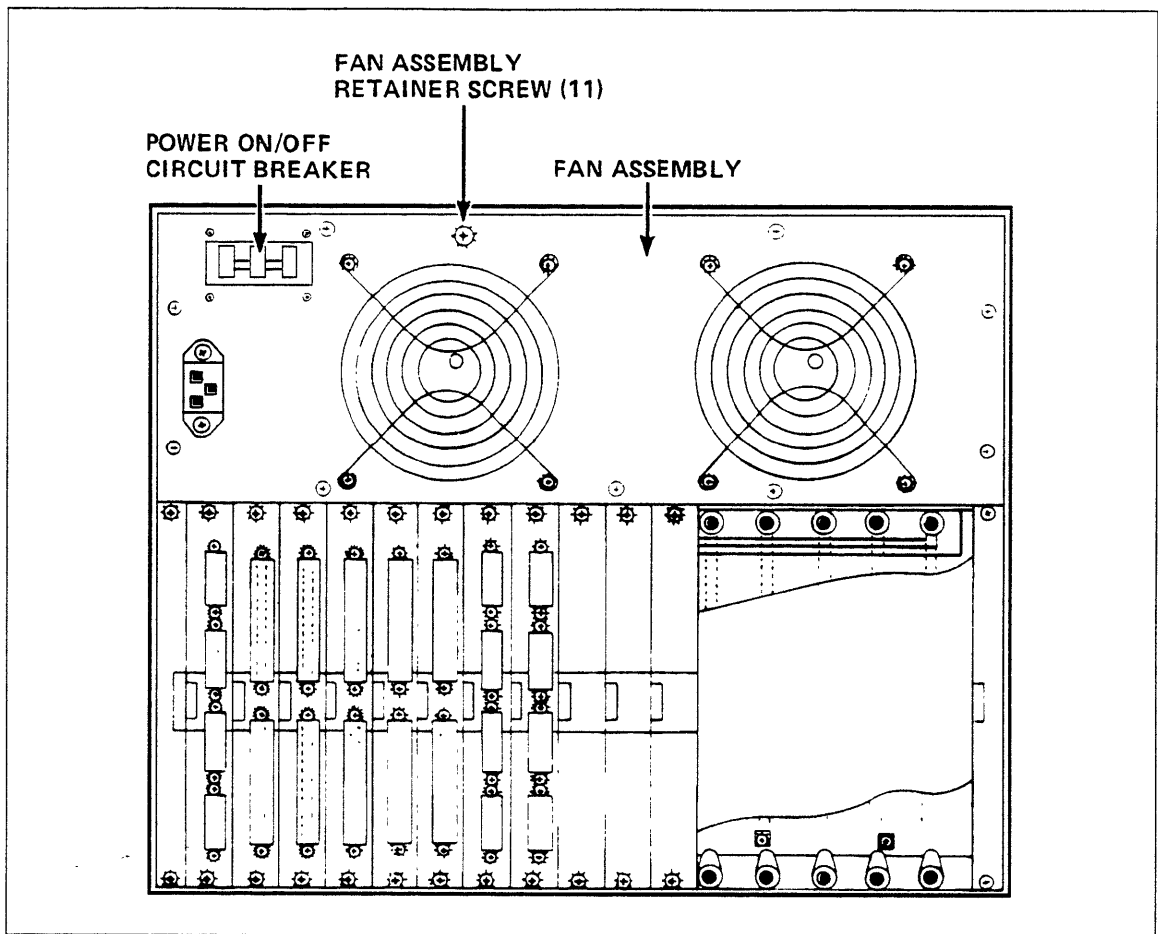

Figure 9-5. Fan Assembly (Back View)
To prevent potential electrical shock, place the PWR DISCONNECT circuit breaker (figure 9-5) in the down (Off) position and unplug the power cord.
1. Remove 11 screws that attach fan assembly to back of DI base (figure 9-5).